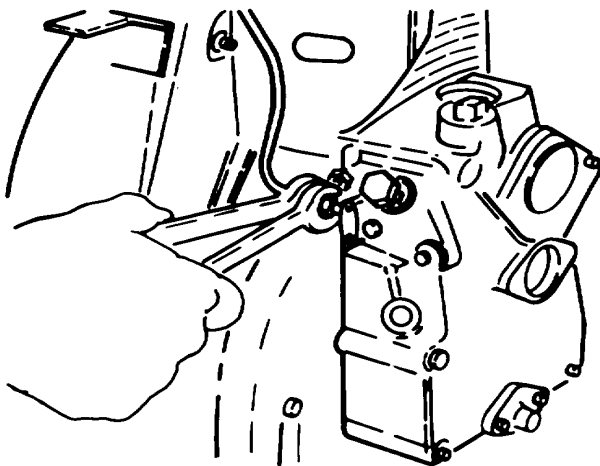

Figure A-56 High Pressure Fuel Line
o. High Pressure Fuel Line. Replace the pressure fuel line between the fuel injection pump and fuel injector. Tighten the tube nut at the fuel injector using a 17mm open end wrench; tighten the two nuts at the injection pump using a 17mm **flare nut** wrench and a 14mm open end wrench. (Figure A-56.)